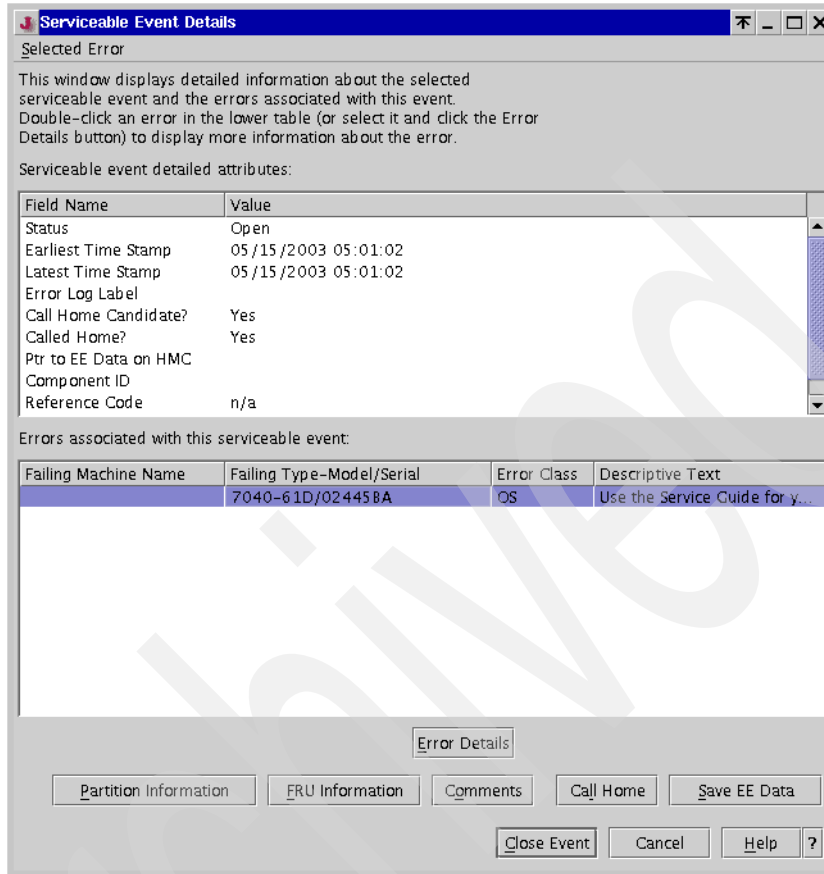

Figure 11-18 Serviceable event details
4. From the Serviceable Event Details window (see Figure 11-18 on page 268), you can:
- Save extended error (EE) data to DVD-RAM or diskette.